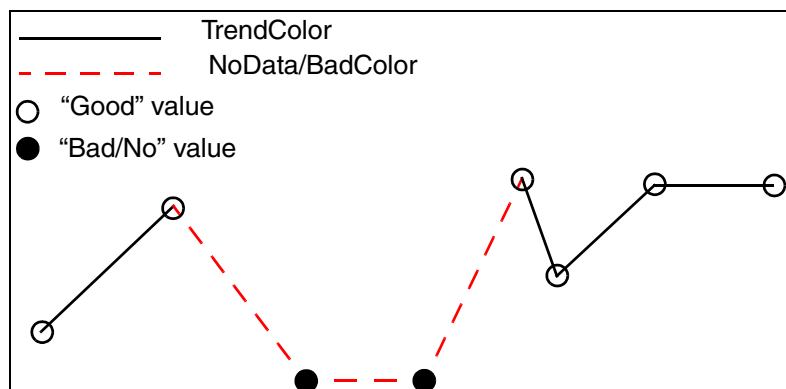
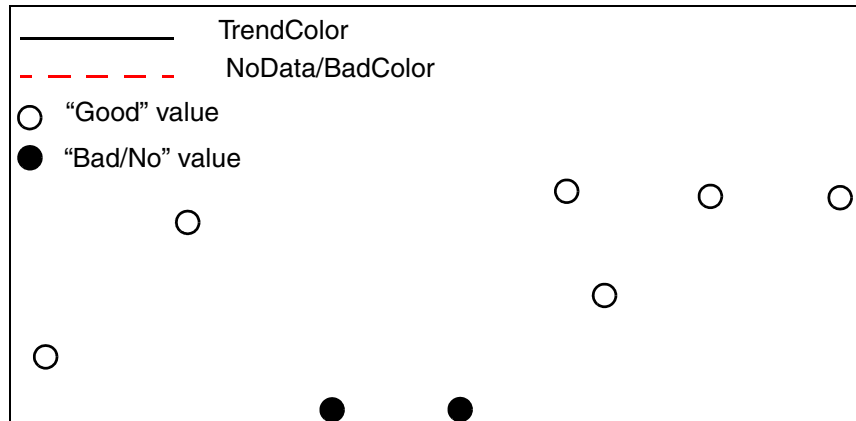

Figure 100. Curve Drawn in Curve_Linear Mode
Figure 103. Curve Drawn in Curve_Point Mode
- `curve_linear` - Values are connected directly from point to point, drawn with the specified line width, Figure 100.
- `curve_point` - Data are drawn as circular points, with the line width property used as the diameter, Figure 103.
When trend curves are drawn, data status is examined and the curve (whole or part) is color coded to reflect the status. The NoDataColor and BadDataColor properties determine what colors are used to indicate NoData and BadData respectively. Good data are still drawn using the Tn_Color property. The properties are common for all curves, and the function is illustrated in Figure 100 through Figure 103.